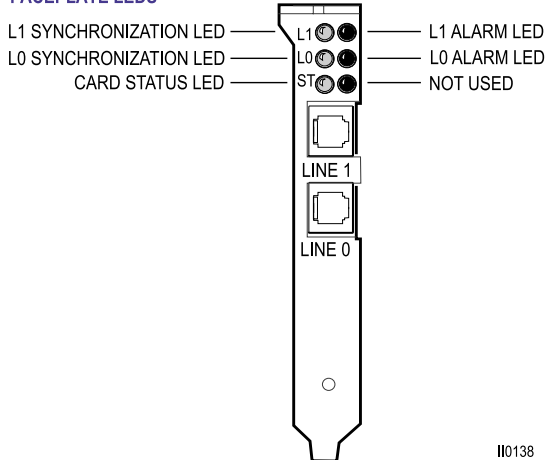

Figure 23: Dual T1/E1 LEDs
1. Check the Dual T1/E1 card LEDs (see Figure 23). Table 7 provides information on how to interpret the LEDs.